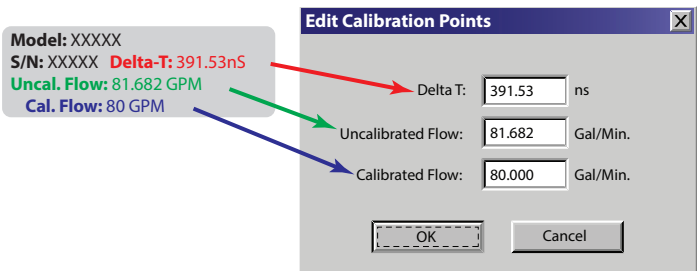

Figure 64: Edit calibration points
7. Enter Delta T, Un-calibrated Flow, and Calibrated Flow values from the FDT-41...46/FDT-41...46-xxx-HT calibration label, then click **OK**. See Figure 64.